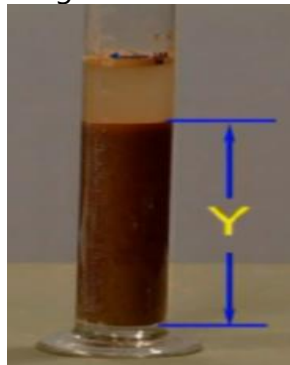

Fig.4.2 Bulking of Sand
5.2 Determine the bulking phenomena of given sample of sand, to make necessary adjustment for the bulking of fine aggregate test to be used in volume batching of nominal mix concrete as shown in Fig.4.2.